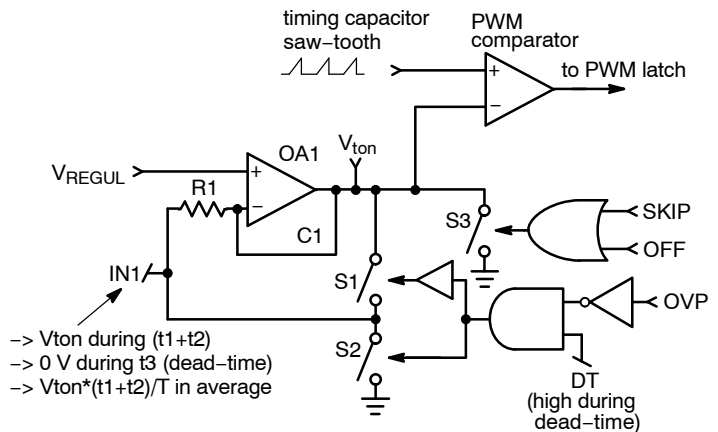

Figure 56.  $V_{TON}$  Processing Circuit
The output of the regulation block ( $V_{CONTROL}$ ) is linearly changed into a signal ( $V_{REGUL}$ ) varying between 0 and 1 V. ( $V_{REGUL}$ ) is the voltage that is injected into the PWM section to modulate the MOSFET duty-cycle. However, like the NCP1601, the NCP1605(A) inserts some circuitry that processes ( $V_{REGUL}$ ) to form the signal ( $V_{TON}$ ) that is used in the PWM section instead of ( $V_{REGUL}$ ) (see Figure 56). ( $V_{TON}$ ) is modulated in response to the dead-time sensed during the precedent current cycles, that is, for a proper shaping of the ac line current (refer to NCP1601 data sheet). This modulation leads to:
Similarly, the “ $V_{TON}$  processing circuit” is inhibited for a skip sequence not to over-dimension “ $V_{TON}$ ” in this case (refer to Figure 56).
**Remark:** Like in the NCP1601, the “ $V_{TON}$  processing circuit” is “informed” when there is an OVP condition, not to over-dimension  $V_{TON}$  in that conditions. Otherwise, an OVP sequence would be viewed as a dead-time phase by the circuit and  $V_{TON}$  would inappropriately increase to compensate it (refer to Figure 56).